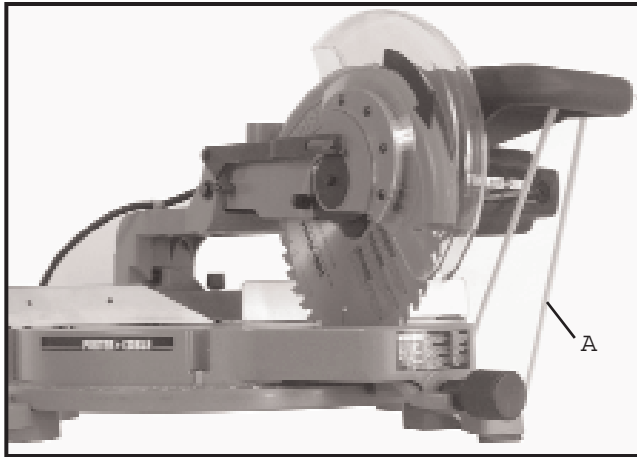

Fig. 4
2. Carefully remove cable tie (A) Fig. 4, which is holding the cuttinghead in the down position.